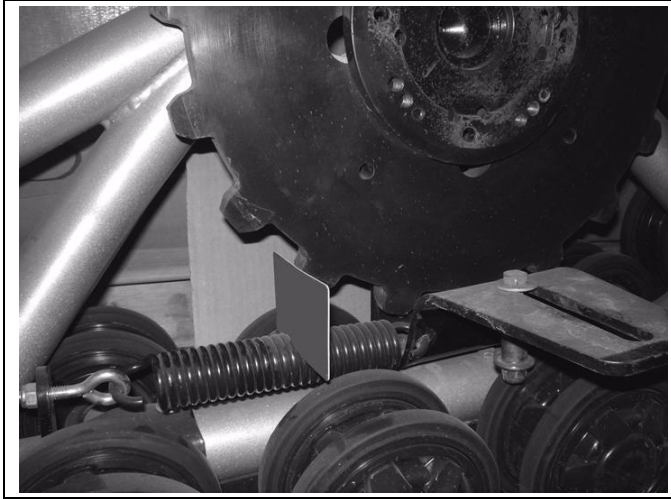

Figure 4
- Install the extension spring with the eye bolt supplied and adjust tension until you can insert 1/32 inch (1 mm) thickness plastic card between spring coils. (refer to Figure 4).